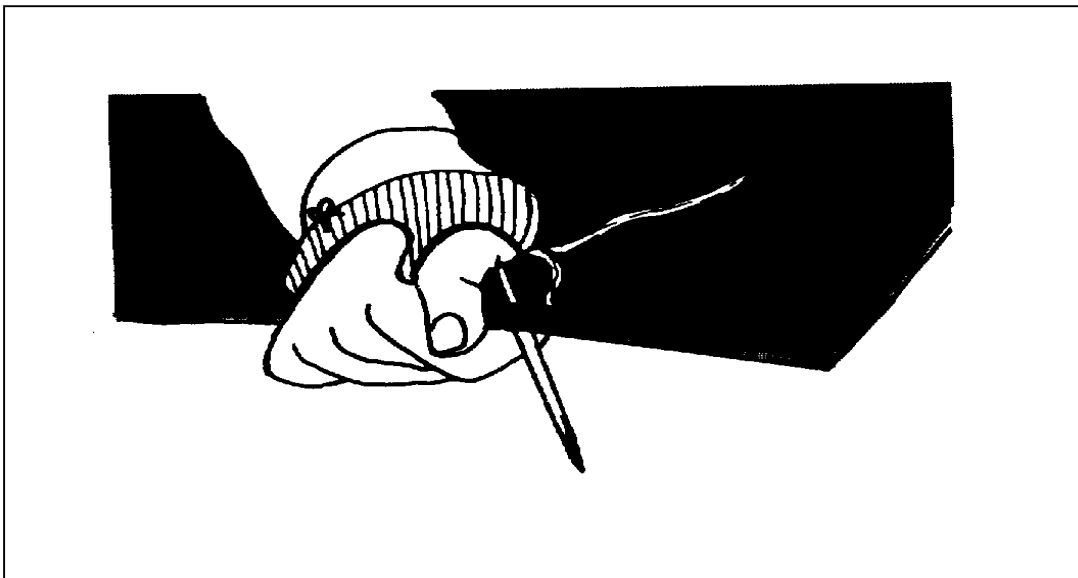

Figure 7-7. Running stitch on canvas
a. **Running Stitch.** The running stitch (Figure 7-7) is also called the flat stitch in canvas repair. It is used to hold two pieces of canvas or webbing together until machine repairs can be made. To make a row of running stitches--
(1) Push the sailmaker's needle through the canvas or webbing, and pull the thread through to the knot.
(2) Backstitch to tack the beginning of the row. See paragraph below.
(3) Push the needle down through the canvas or webbing and then up through the canvas or webbing.
(4) Continue to make one or two stitches at a time to the end of the row. Make the stitches uniform in appearance and the same distance apart. Do not try to weave the needle in and out several times, because the canvas and webbing are too thick and stiff.
(5) Backstitch to tack the end of the row.
(6) Make a knot in the thread close to the canvas, and cut off the remaining thread.